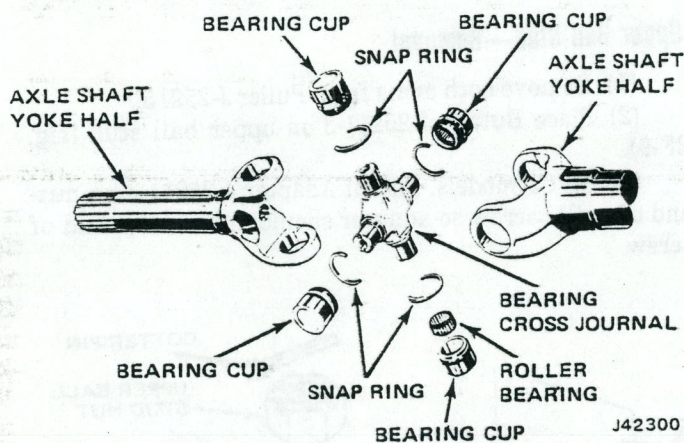

Fig. 2F-5 Axle Shaft Universal Joint
(5) Remove outer locknut, washer, and inner locknut using Tool J-6893.
(6) Remove rotor. Spring retainer and outer bearing are removed with rotor.
(7) Remove nuts and bolts attaching spindle and support shield and remove spindle and shield. If necessary, tap spindle with rawhide mallet to remove it from knuckle (fig. 2F-5).
(8) Remove axle shaft.